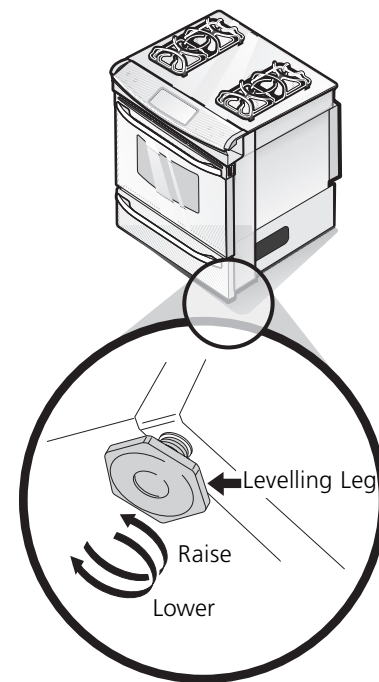

Figure 15
- Place a level on the rack. Take 2 readings with the level placed diagonally in one direction and then the other. Level the range, if necessary, by adjusting the 4 leg levelers with a wrench (see Figure 15).
4. Level range if necessary, by adjusting 4 leg levelers with wrench (see Figure 15). A minimum clearance of 1/8" (0.8 cm) is required between the bottom of the range and the rear leg levelers to allow room for the anti-tip brackets.